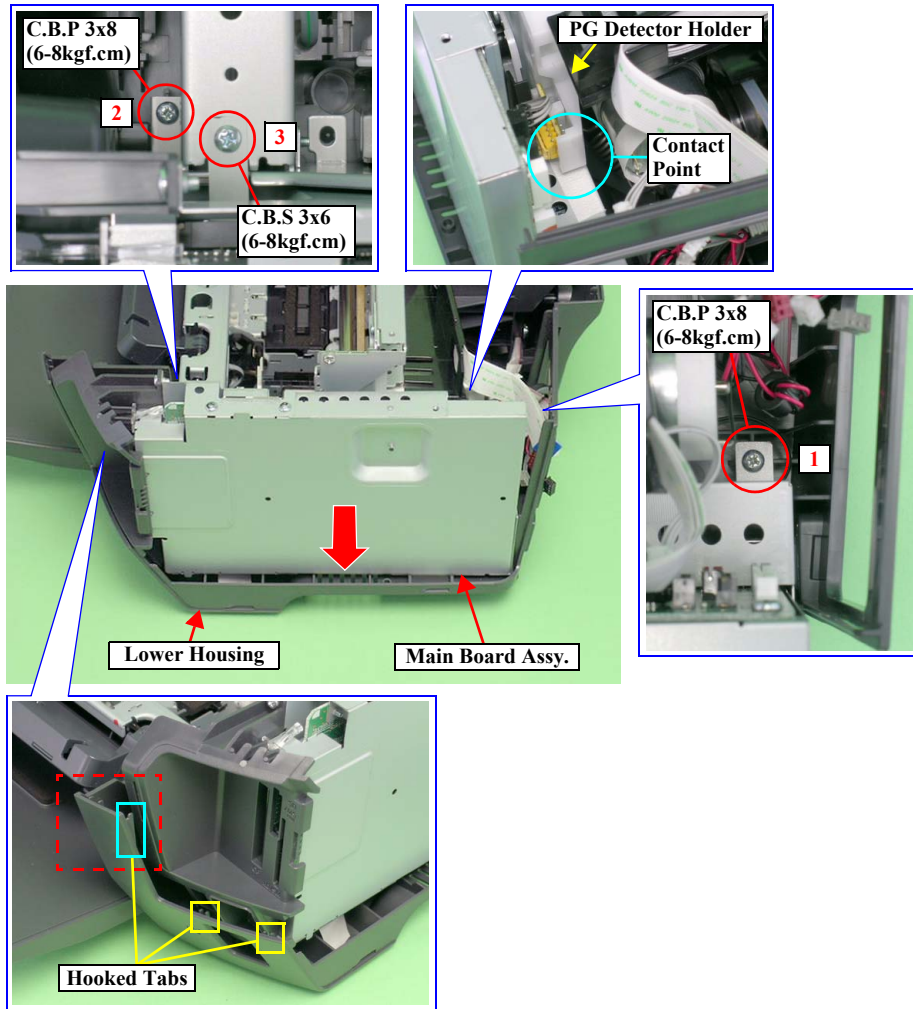

Figure 2-25. Removing the Main Board Assy. (2)
- Tighten the screws to secure the Main Board Assy. in the order shown in Figure 2-25.